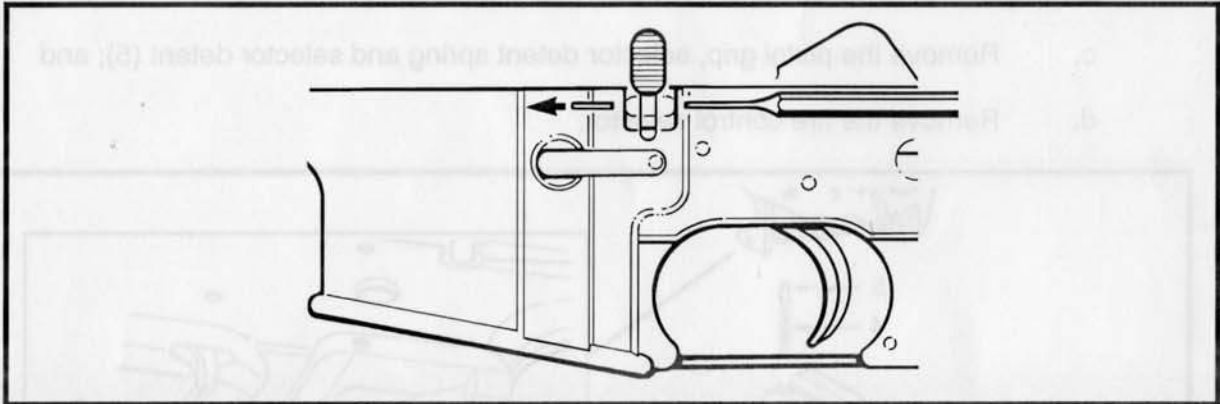

Figure 3-2-40 Removing the Bolt Catch Pin
- a. Remove the bolt catch pin with punch NSN 5120-21-896-7514. See Figure 3-2-40;